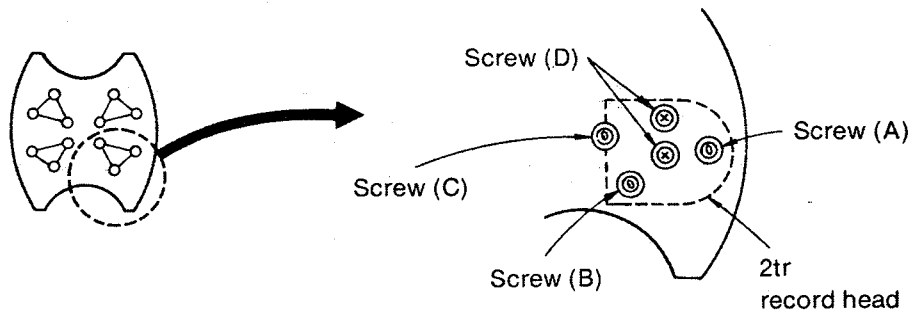

Fig. 45
- * The screws for each adjustment are in the positions shown in figure 45.